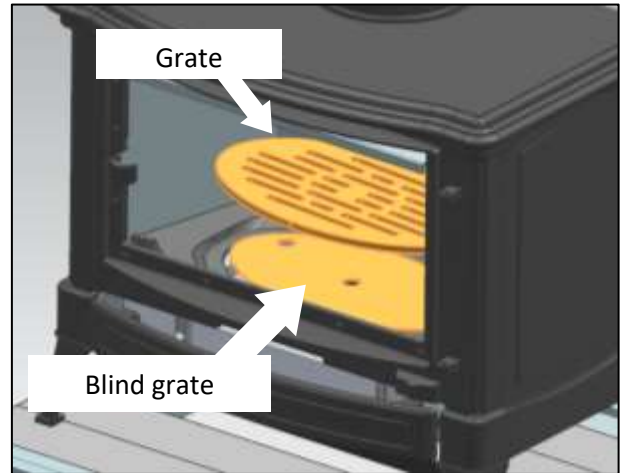

Fig. 20
**If your model has a blind grate, remove it from the stove before cleaning the ash (fig. 20).**